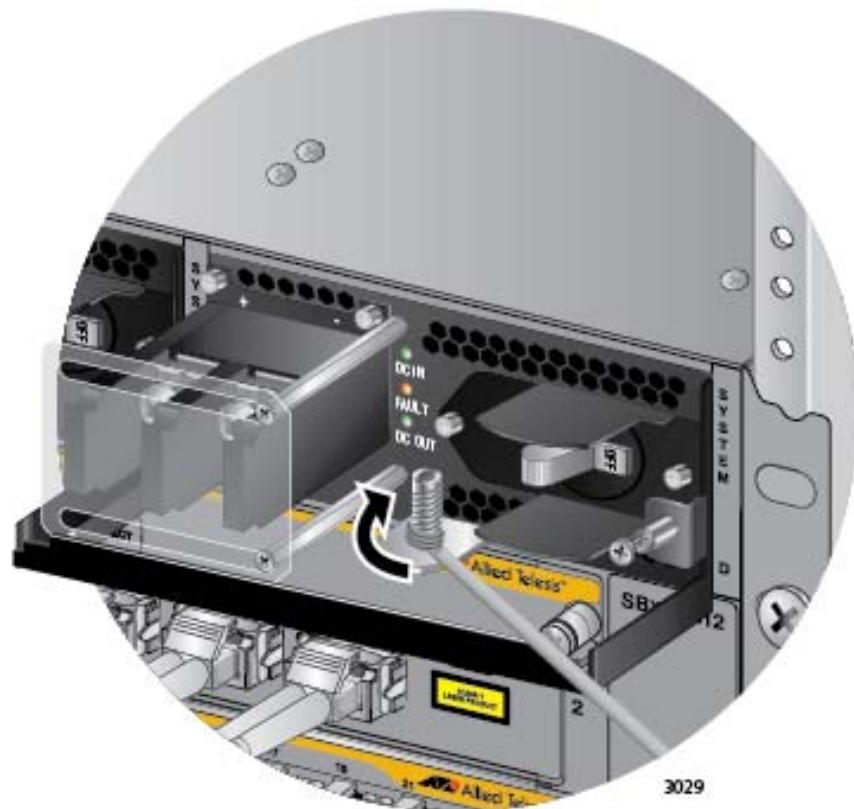

Figure 106. Attaching the Bare Grounding Wire to the Grounding Post
3. Wrap the grounding wire clockwise around the base of the grounding post, as shown in Figure 106.